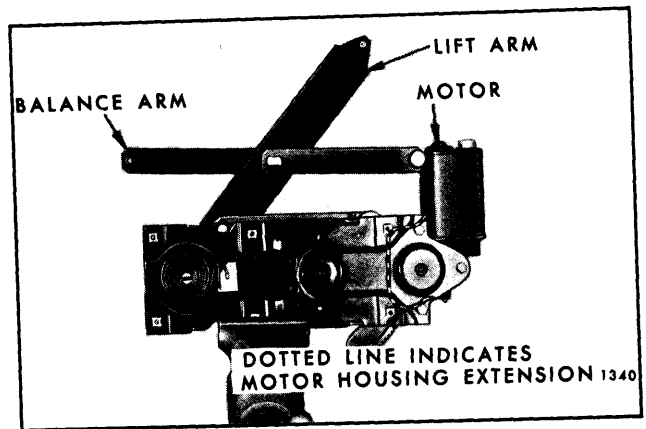

Fig. 6-36—Door Window Regulator and Electric Motor Assembly
1. Remove front door window electric regulator and clamp assembly in a vise (Fig. 6-36).
**IMPORTANT:** DO NOT drill into the motor housing, part of which is indicated by the dotted line illustrated in Figure 6-36. In addition, locate hole sufficient distance from edge of sector gear to insure proper retention of sector gear to back plate.
4. Remove regulator motor attaching bolts and remove motor from regulator assembly (Fig. 6-36).